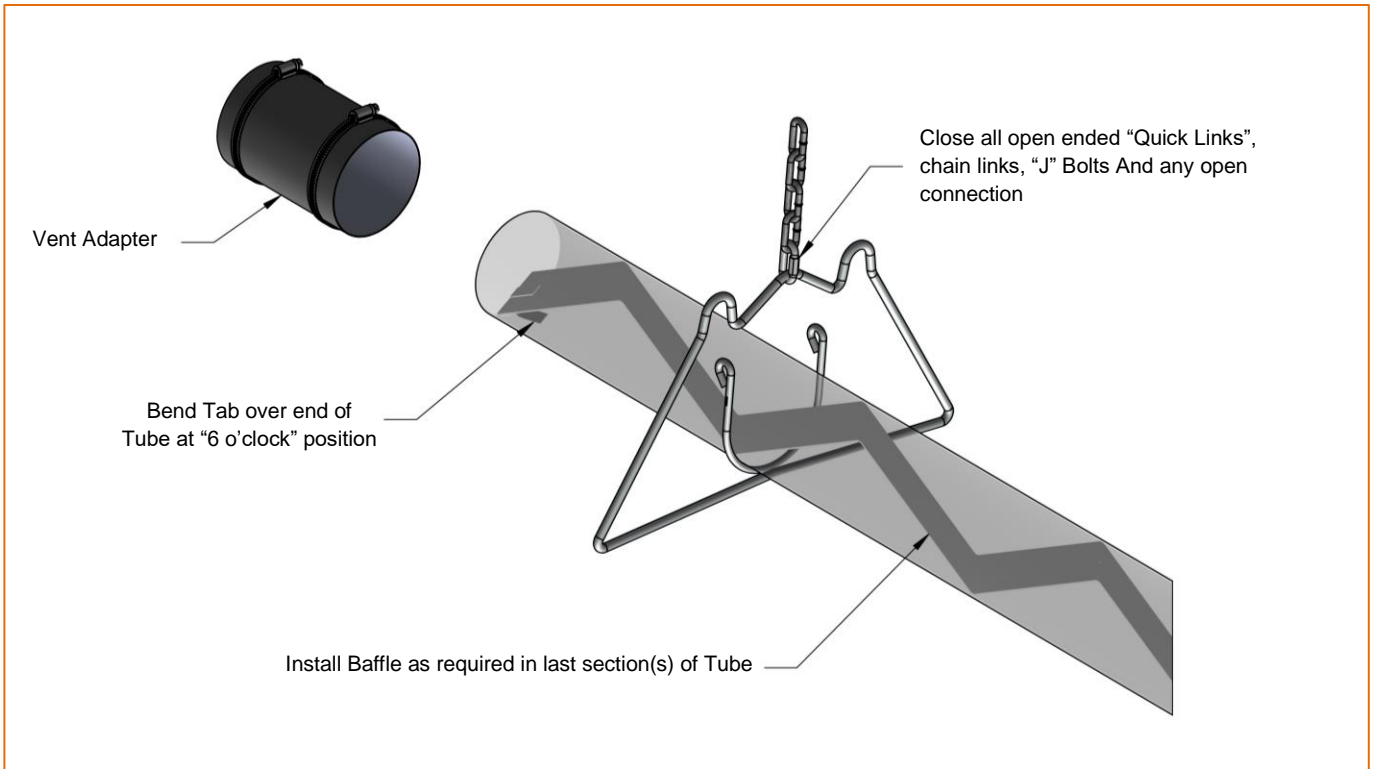

Figure 11: Baffle Installation
- If required for your heater model (refer to Table 1), install the baffle at the end of the heat exchanger. The small tab on the baffle is folded over the end of the tube and clamped in place by the vent connector and vent system, refer to Figure 11.